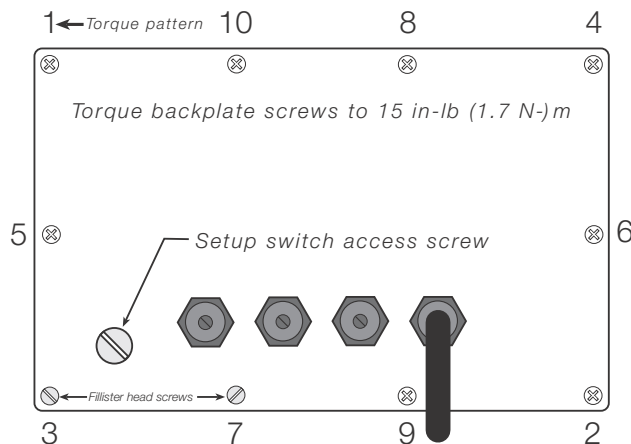

Figure 2-4. IQ plus 355 Enclosure Backplate
- Two 8-32NC x 7/16 fillister head screws (PN 30623). These screws occupy the holes below and on either side of the setup screw on the indicator backplate (see Figure 2-4 on page 7).
Once cabling is complete, position the backplate over the enclosure and reinstall the backplate screws. Use the torque pattern shown in Figure 2-4 to prevent distorting the backplate gasket. Torque screws to 15 in-lb (1.7 N-m).